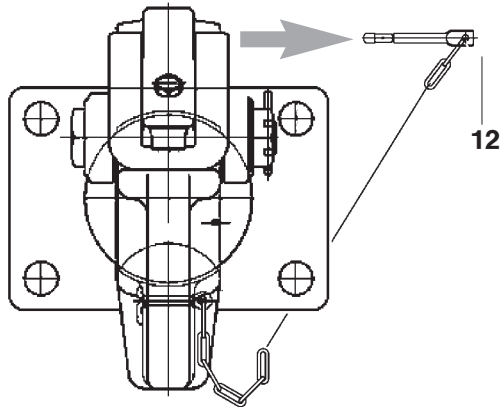

Fig. 4
- withdraw the security pin (12) (see fig. 4 and 5)